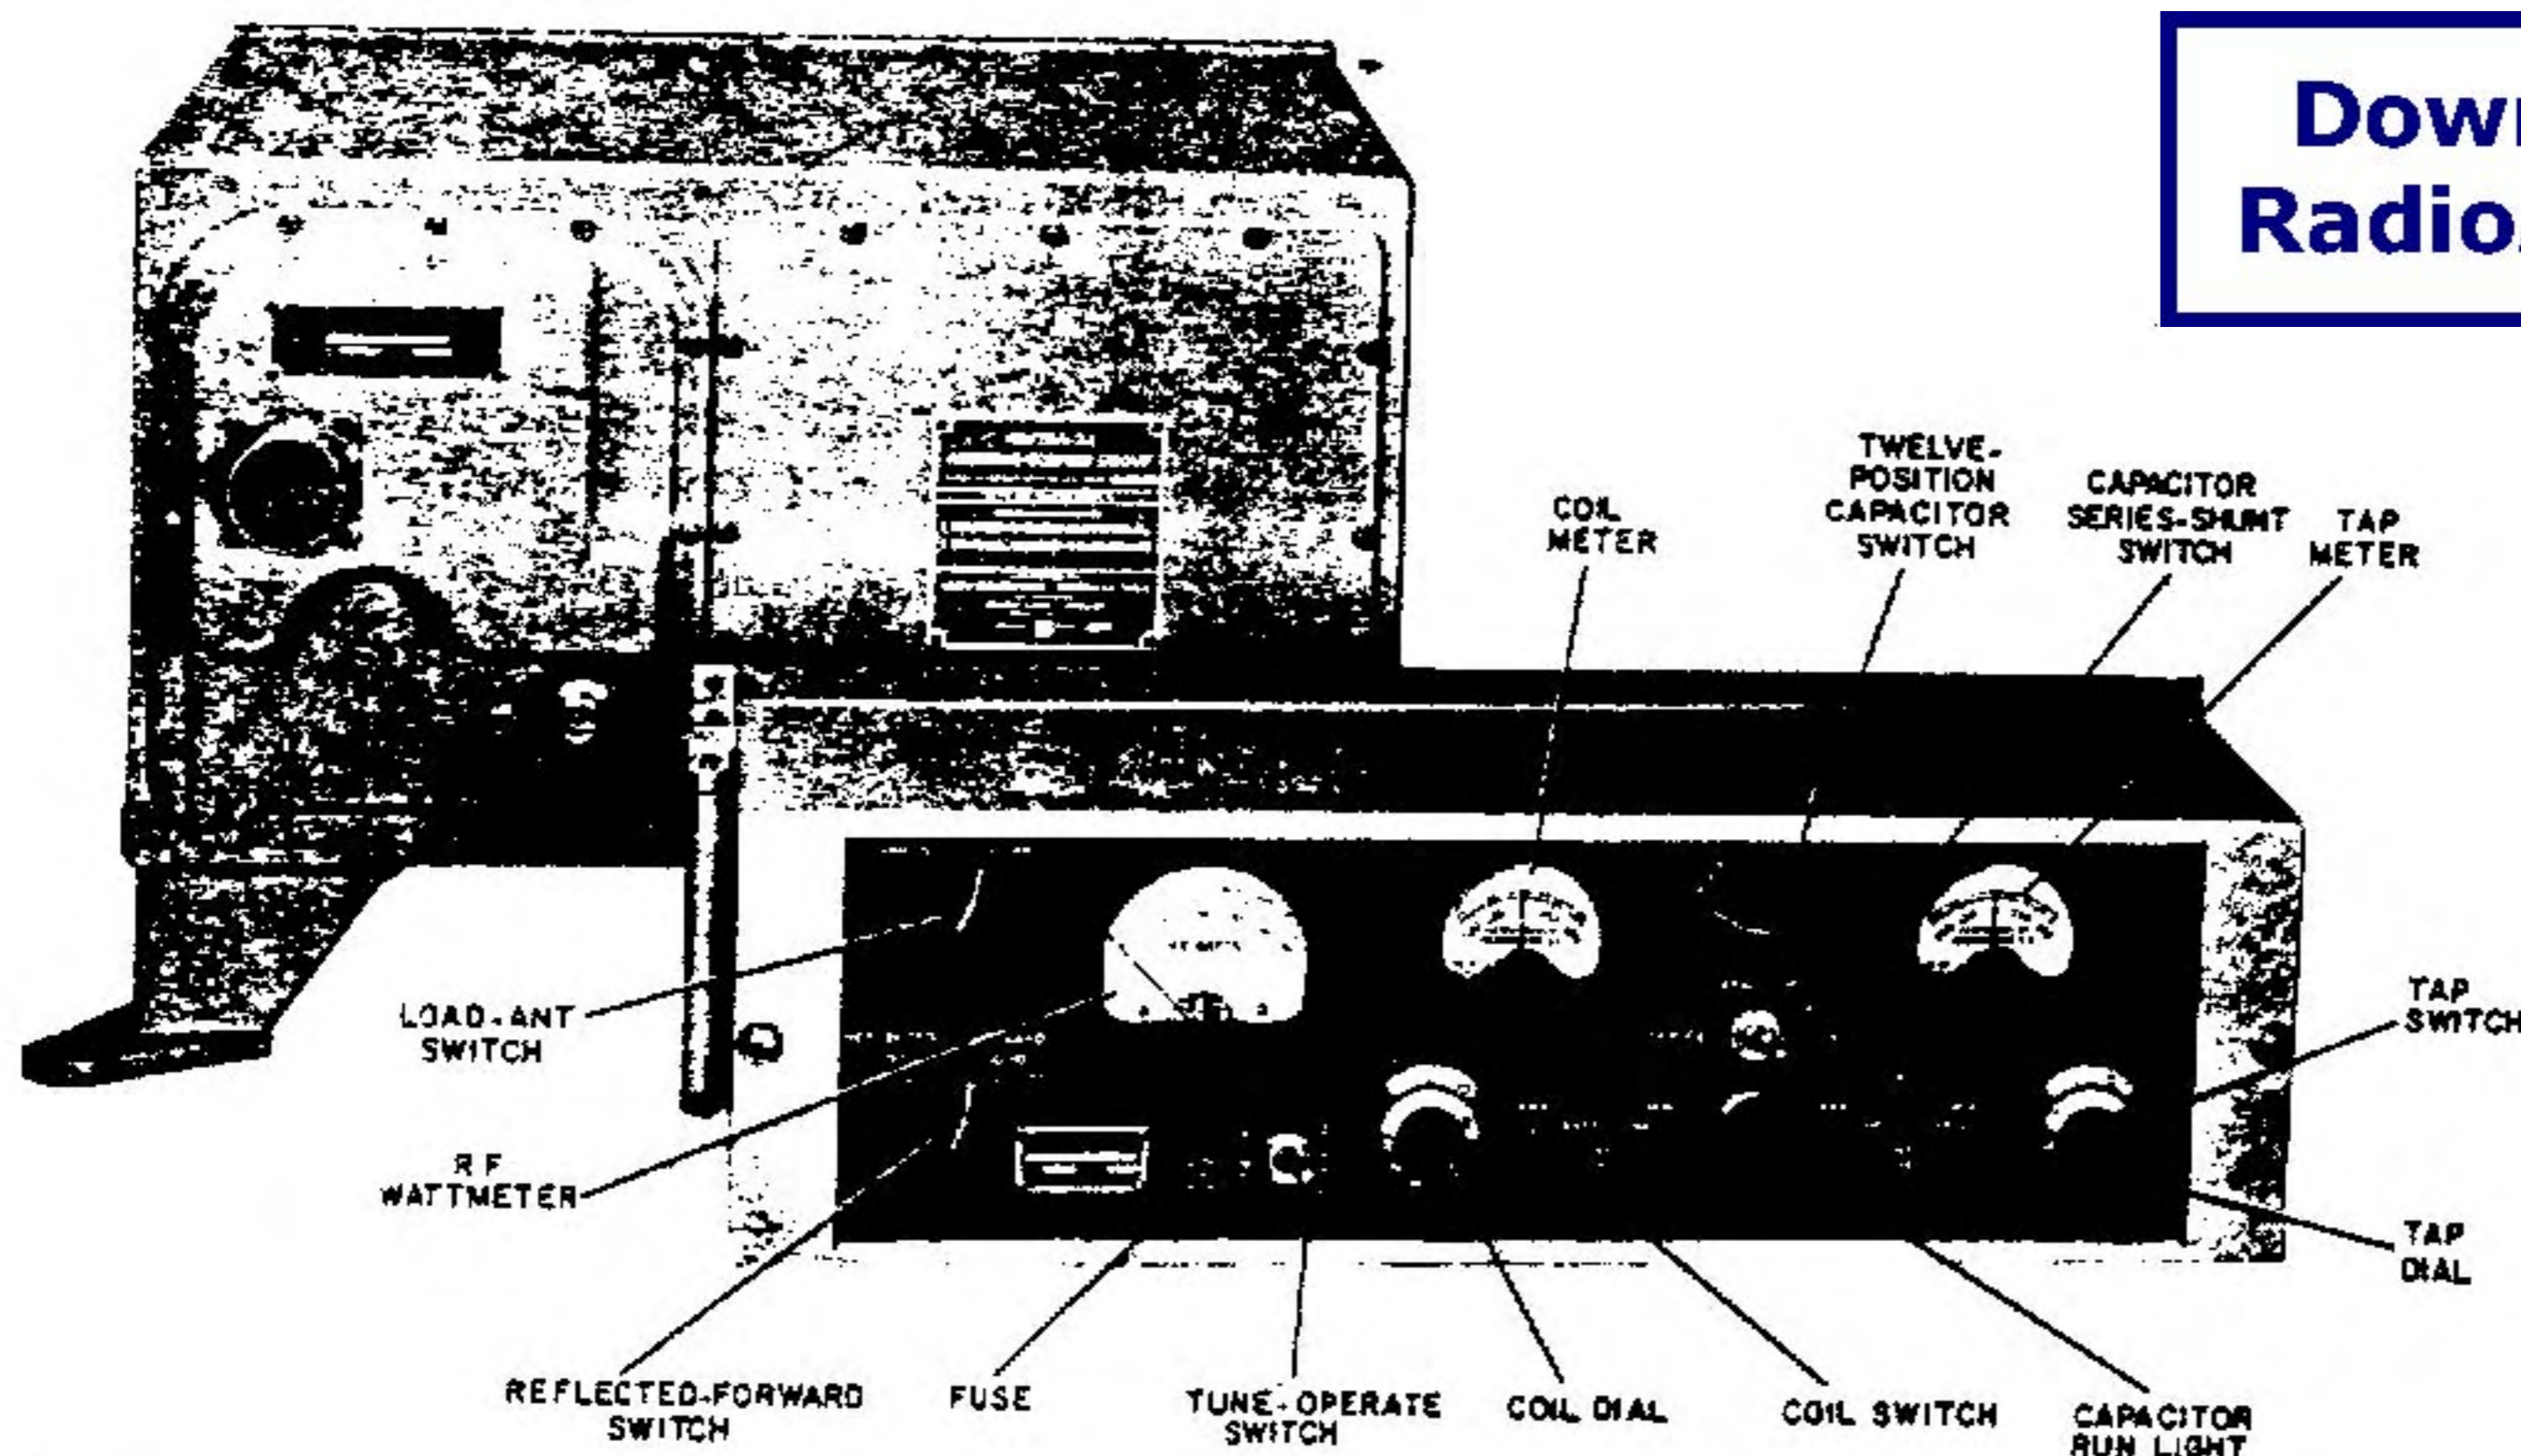

Figure 2-2. Antenna Coupler Group AN/SRA-22, Front Panel Control Location
a. DESCRIPTION OF CONTROLS. - All of the controls and indicators used to operate the antenna coupler are located on the coupler control. Table 2-1 describes the operating controls and indicators, and figure 2-2 identifies them.
b. EMERGENCY MAINTENANCE. - The only emergency maintenance that can be performed is the replacement of the fuse in Coupler Control C-2698/SRA-22. Refer to figure 2-2 for fuse location. This fuse is in one side of the 115-volt ac line which supplies power to the antenna coupler system. Table 2-4 contains symptoms indicating probable fuse failures.